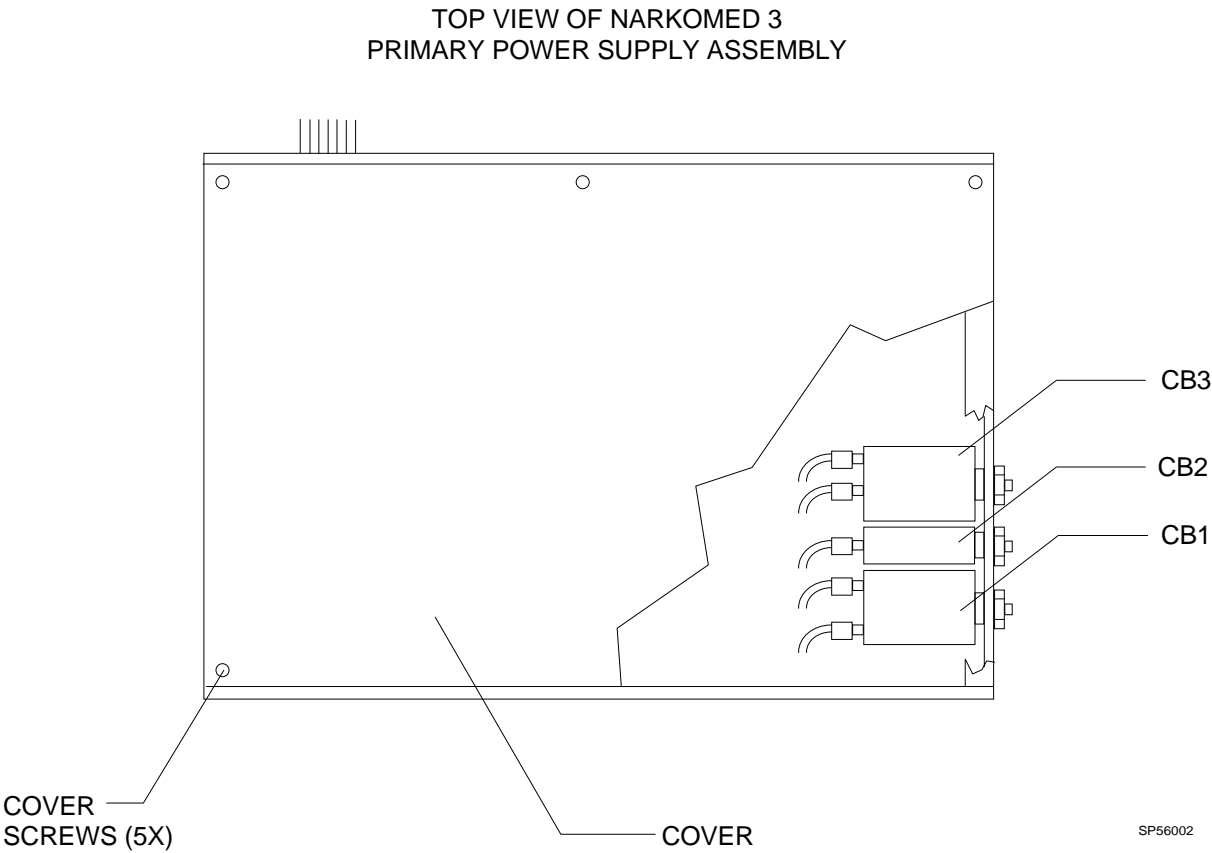

Figure 2: NARKOMED 3 CIRCUIT BREAKER LOCATION
6. Remove the five screws securing the top cover of the primary power supply assembly, and remove the cover. See Figure 2.